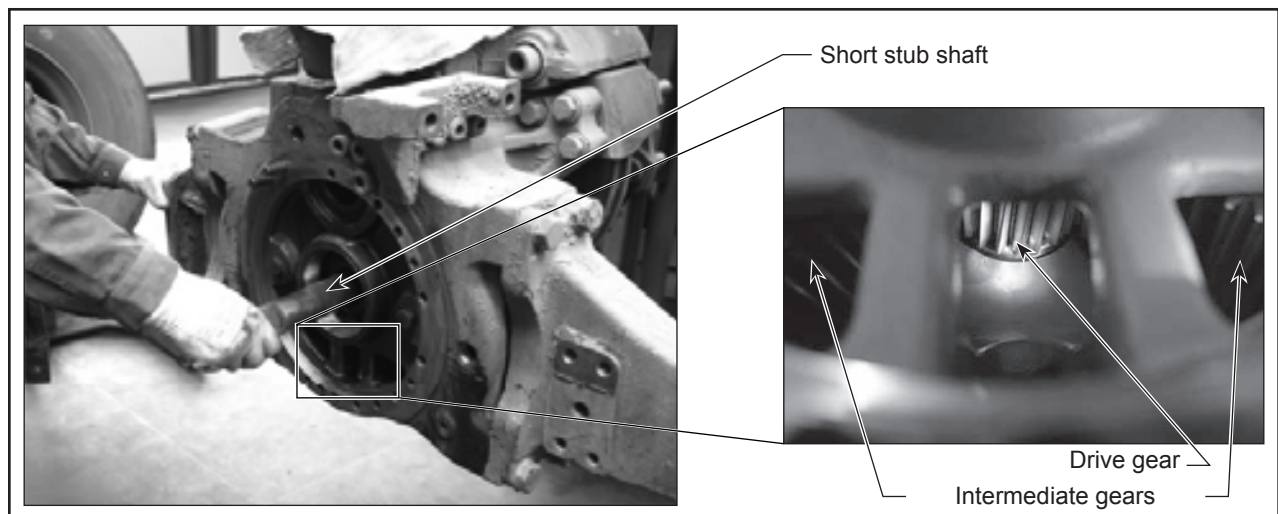

Figure 10 - Portal Drive Gear
2.28. Pull the short stub shaft out of the drive gear in the portal drive. See Figure 10.
2.29. Look into the portal drive in order to inspect the intermediate and drive gears for damage. See Figure 10.
2.50. Mount the short stub shaft on the portal drive gear. See Figure 10.